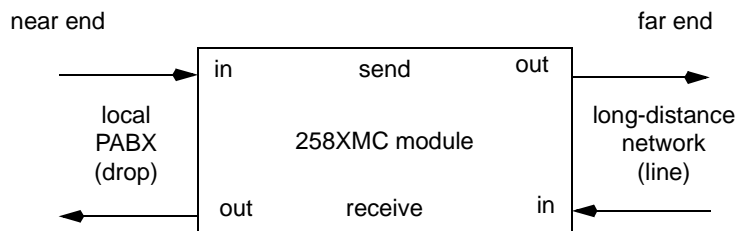

Figure 6-1 258-to-facility orientation
See Figure 6-1 for an orientation illustration.
- 6.1 PCM alarms are indicated by front panel LEDs. They are grouped into two categories, send-in (drop) and receive-in (line). See Figure 6-1 and Tables 6-1 and 6-2 for alarm reference information.